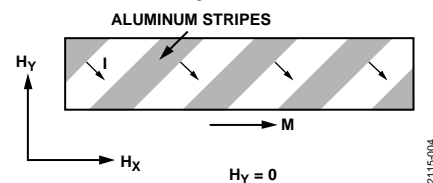

Figure 4. Barber Pole Effect in a Permalloy Strip
A common method used to improve both the linearity and polar insensitivity of the permalloy strip is to add aluminum stripes angled at  $45^\circ$  to the strip axis called barber poles, as shown in Figure 4. Any current flowing between barber poles takes the shortest path—the perpendicular path, and the angle between the current flow vector (I) and magnetization vector (M) shifts by  $45^\circ$ .